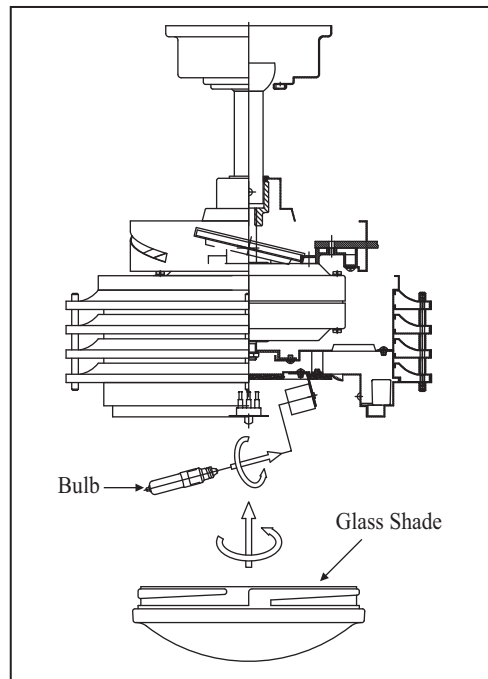

Figure 18
4. Install 100 watt JD type halogen bulb to the light socket. (Fig. 18)
5. Raise glass shade up against the light plate and secure it to fan by turning glass clockwise until snug. DO NOT OVERTIGHTEN. (Fig. 18)